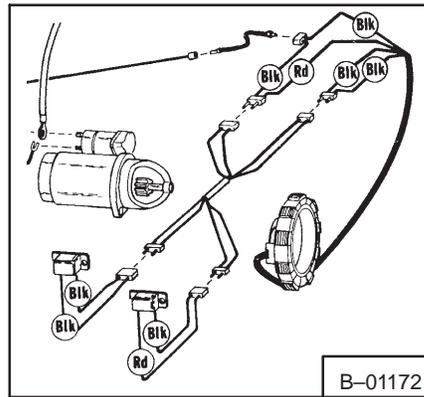

Fig. 1-31 Wiring Diagram
4. Use a jumper harness (Fig. 1-31, Item 1) to connect the stator leads to the rectifier and regulator modules [A]. The keyed connectors prevent incorrect wiring.